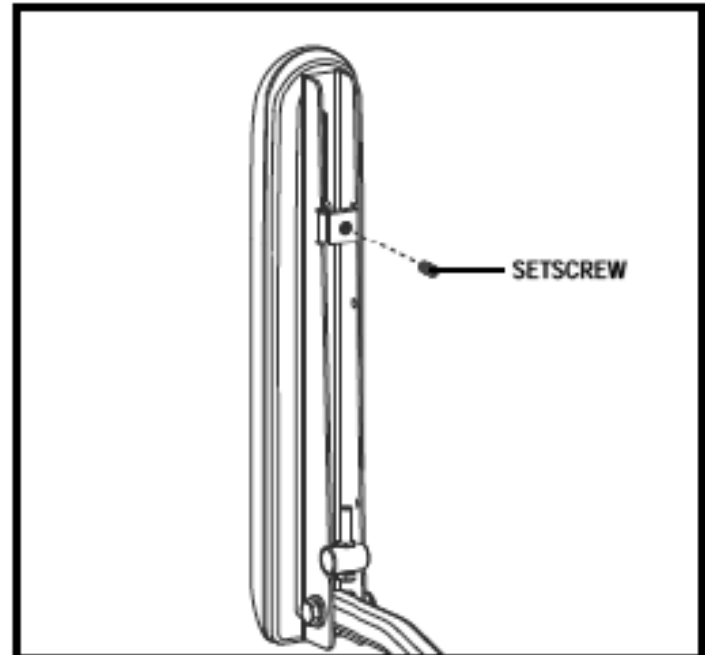

Figure 15. Underside of Armrest
2. Loosen the setscrew on the controller bracket. See figure 15.
5. Loosen the setscrew on the controller bracket. See figure 15.